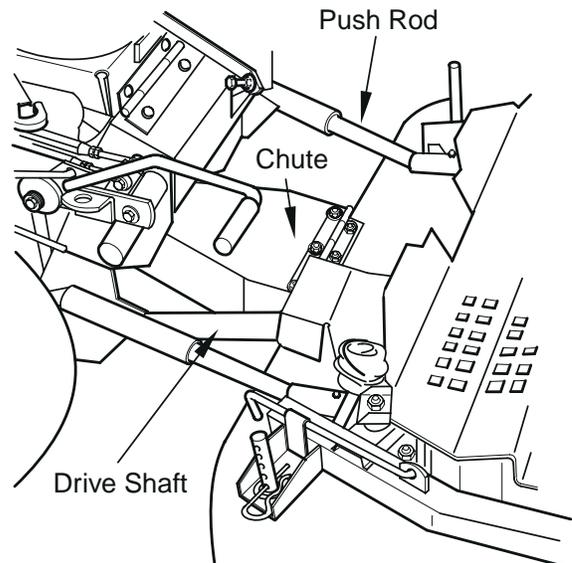

Figure 4-18 Aligning Deck With Push Arms
1. Align the shafts of the push arms with the mounting holes on the cutter deck (Figure 4-18). Be sure the cutter deck discharge chute and the drive shaft are arranged as shown in Figure 4-18.